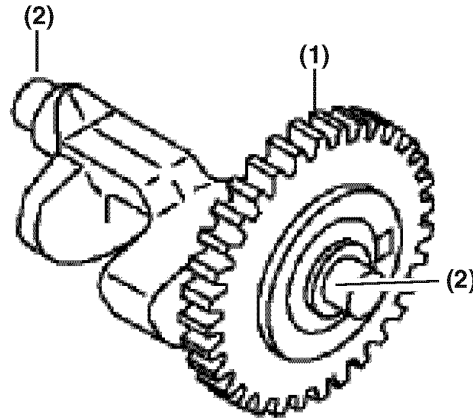

Figure 8-63
Check the balancer shaft for wear or damage to the gear (**Figure 8-63, (1)**). Measure and inspect the bearing support ends (**Figure 8-63, (2)**) of the balancer shaft and bearings for wear and damage. Replace the balancer shaft and bearings if specifications are not within limits or damage is evident. See "Balancer Shaft" on page 8-8 for the service limit.